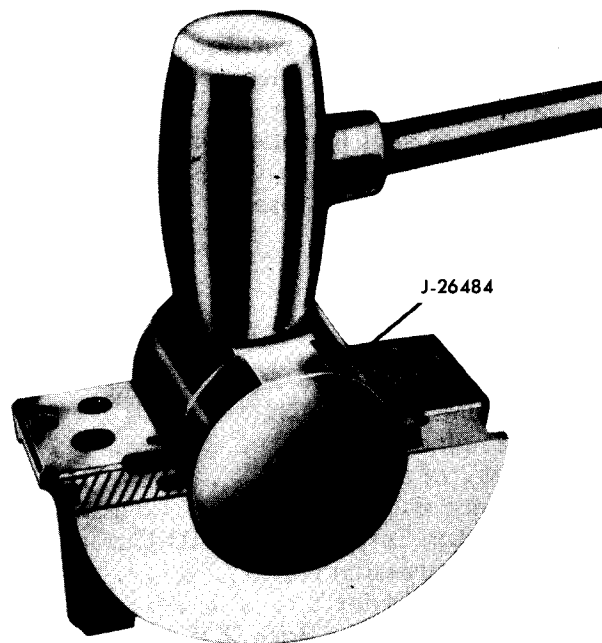

Figure 88—Installing Rear Main Seal - Lower Half
2. Using seal installer J-26484 hammer seal into groove (figure 88).